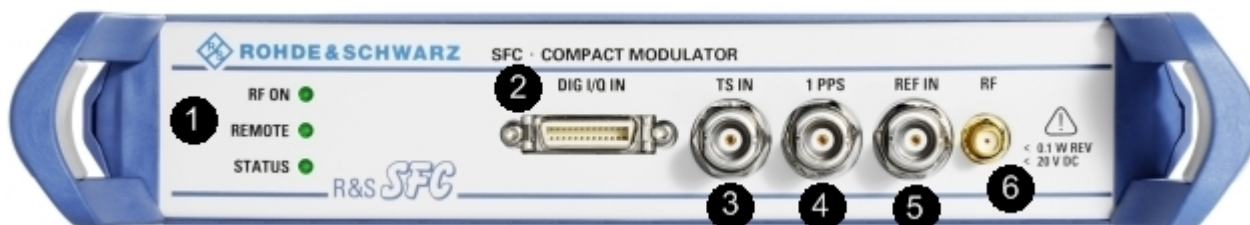

Figure 3-1: Front panel view
See (1) in Figure 3-1.
See (6) in Figure 3-1.